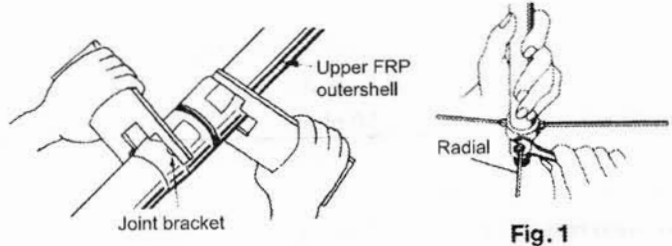

Fig. 1
3. Attach three radial elements as shown in Fig.1